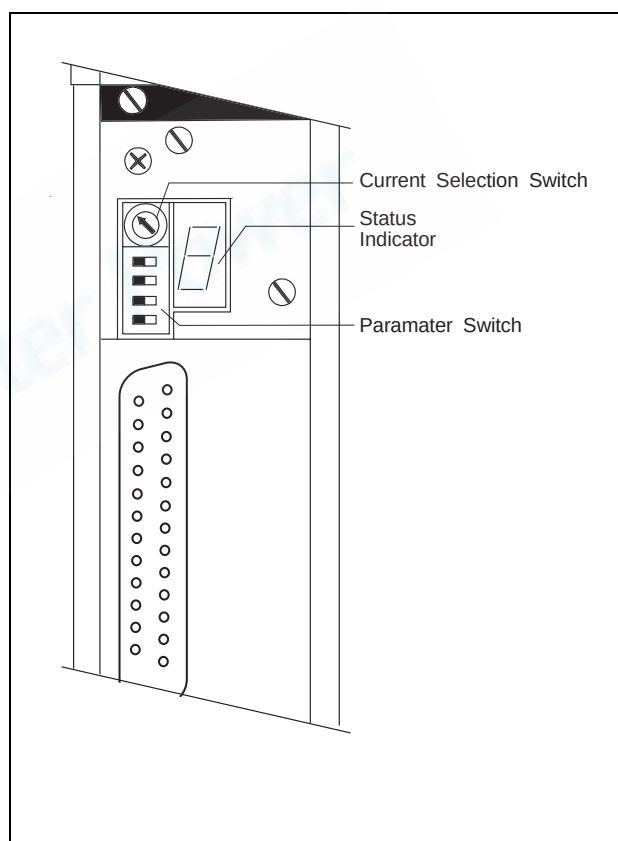
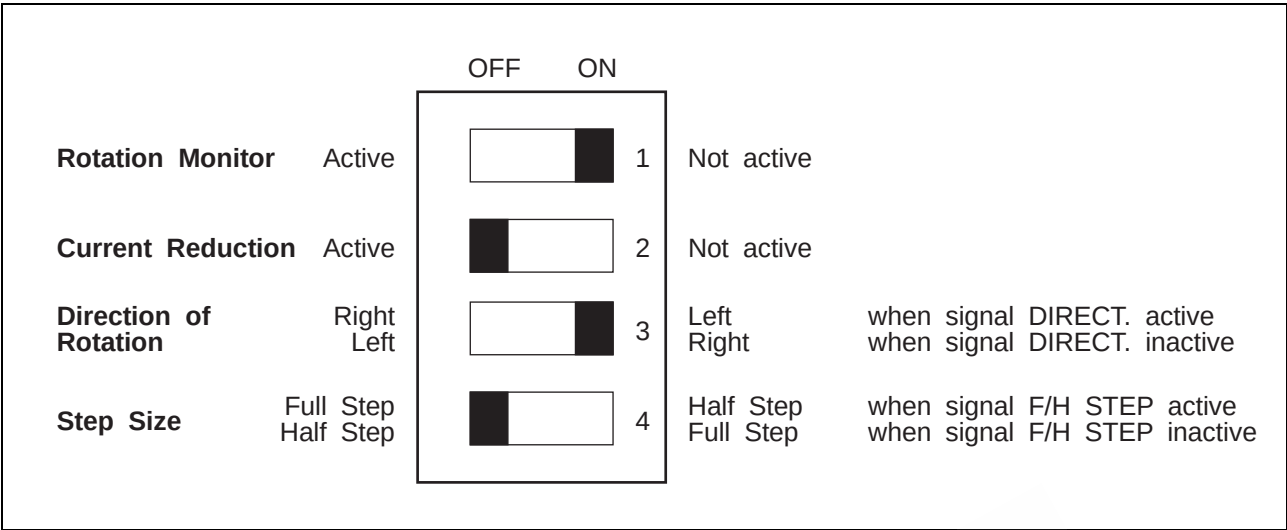

Figure 2-10 Adjustment Elements
Figure 2-13 Switch Settings Parameter Switch
The basic adjustments are made with the Current Selection Switch and the Parameter Switch (see figure 2-10) as follows:
- The automatic power reduction should, if possible, always be switched on in order to reduce the power dissipation (see figure 2-13).
- Adjust desired parameters according to figure 2-13 with the DIL switch 03 (see figure 2-10). The basic adjustment as set by BERGER LAHR is depicted.